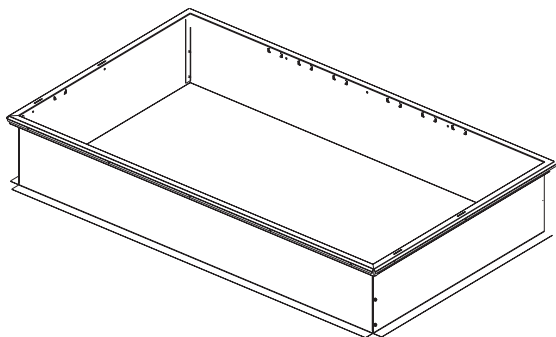

Figure 8. Step one
1. Set the two (2) sides and two (2) ends on a flat surface to form a square, with the wood nailers facing the outside. See Figure 8, p. 8. Assembling a long duct support at this point will hold the sides in place while fastening ends.